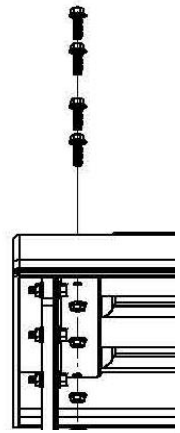

Figure 8
F. Drill four 5/16" holes through the fender using the holes in bracket PB5071 as a guide (Figure 8).